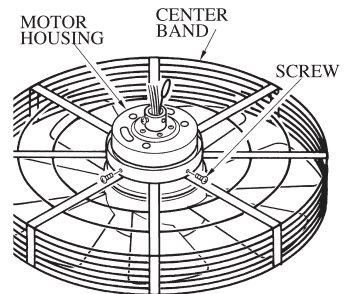

FIG.3
2. Insert the down rod through the center opening in the canopy .canopy hole cover, coupling cover and route the motor leads through the hanger ball/down rod assembly. Align the clevis pin holes in the down rod with the holes in the motor coupling. The clevis pin must pass though the holes in the motor coupling and the down rod. Place the washer onto the clevis pin and install the hairpin clip making sure to push straight leg of the hairpin clip through the hole near hanger ball to make sure the clevis pin is properly installed (see fig. 3)